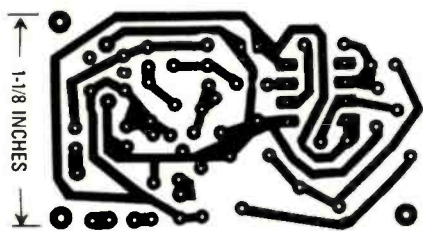

Fig. 3. Shown here is a full-sized template of the transmitter's printed-circuit board.
**Construction.** Because both units include RF circuitry, printed-circuit boards are recommended. Full-sized templates of the printed-circuit boards for Personal Pocket Pager's transmitter and receiver (respectively) are shown in Figs. 3 and 4. You can etch your own, or you can purchase etched and drilled boards from the source given in the Parts List.